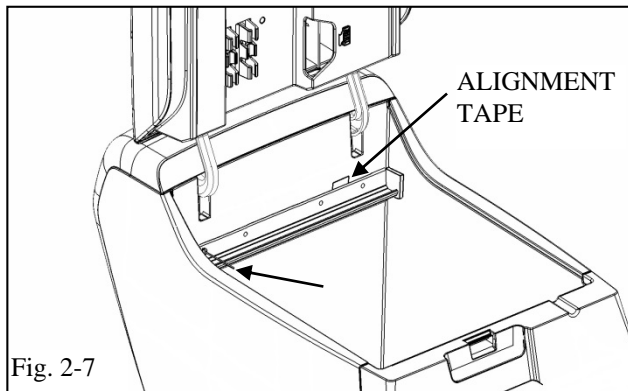

Fig. 2-7
- (t) Hold the rail in place and collapse the rivet (Fig. 2-7).